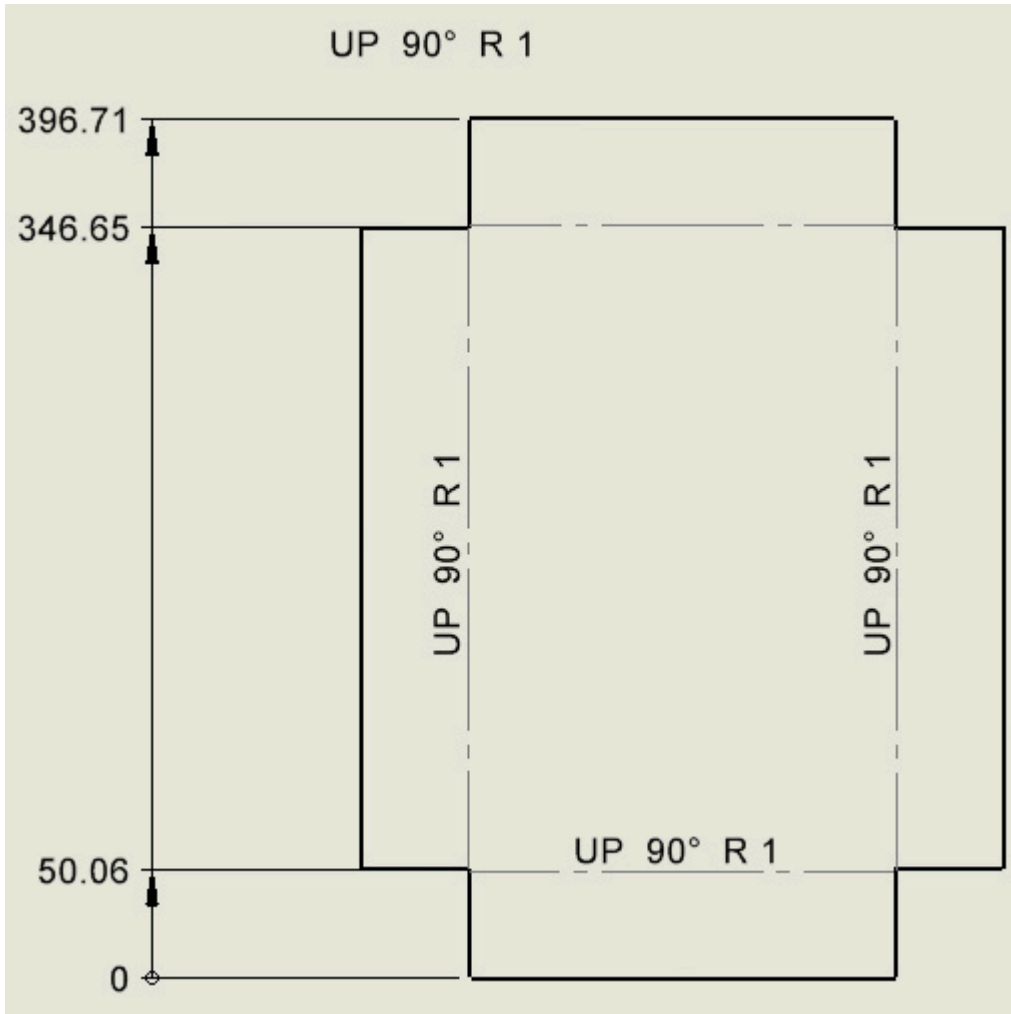

Figure 4.5: Placing Ordinate Dimensions
3. Select further points in the model to add more dimensions to the line (see *Figure 4.5*). When you have finished placing dimensions, press the *Esc* key to stop placing new dimensions: